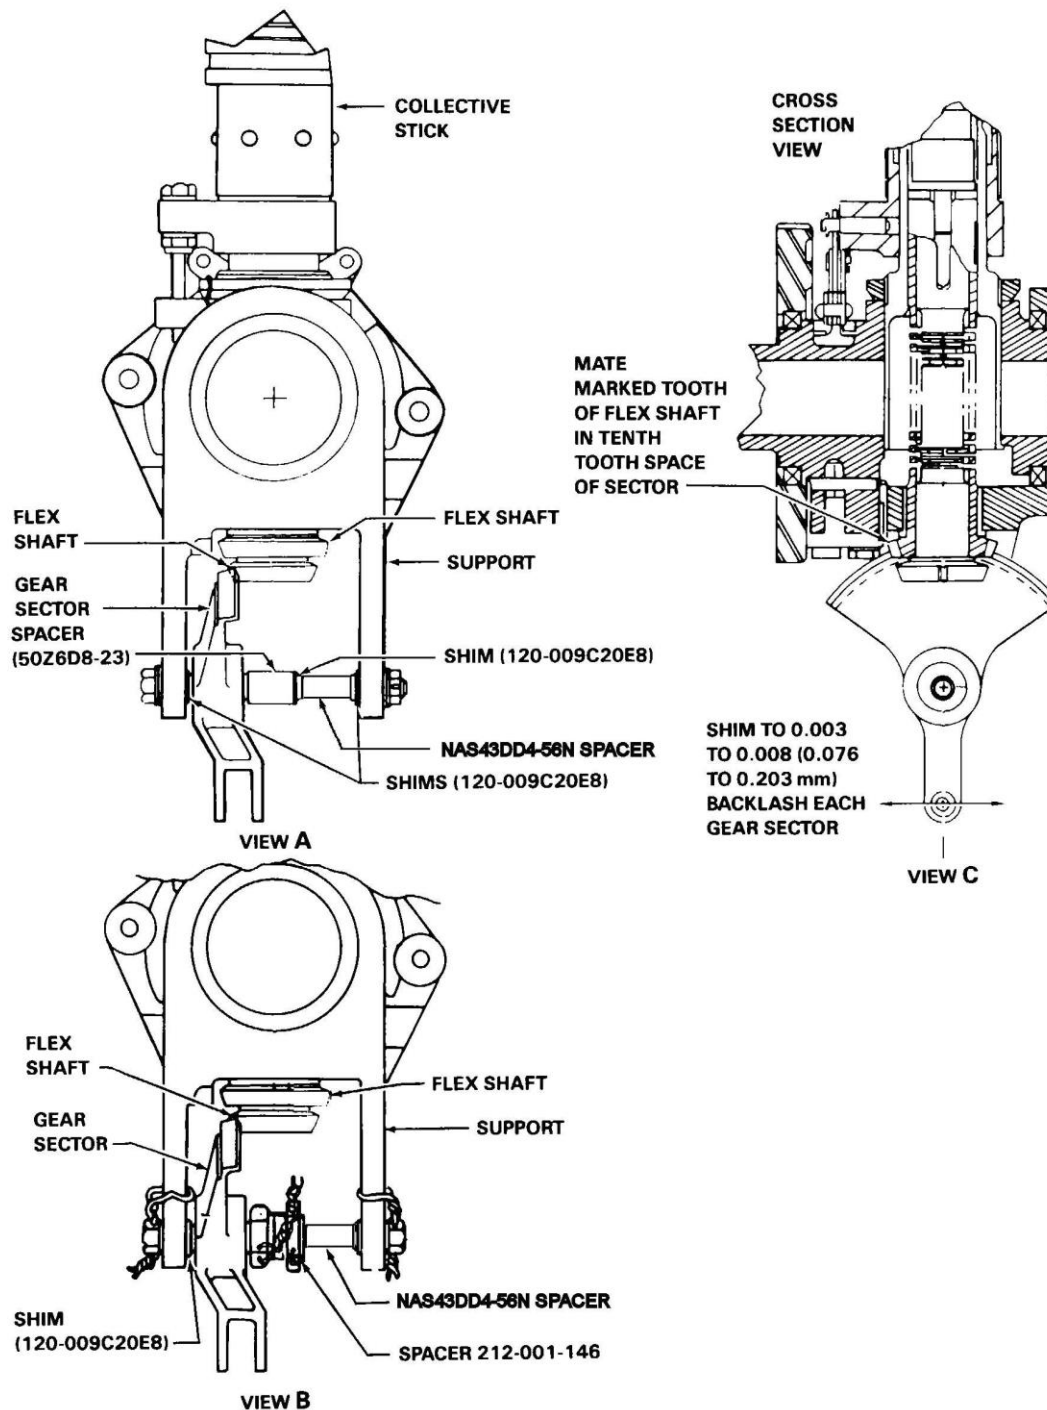

Figure 67-12. Throttle Control Gear Sectors Shimming and Backlash
*If throttle controls do not operate smoothly, perform following checks and adjustments (Figure 67-12).*